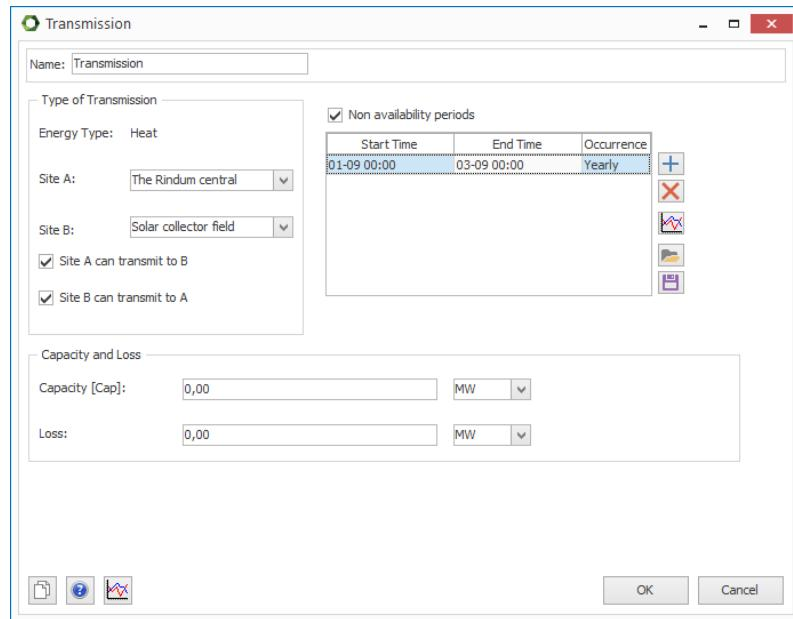

Figure 2-51: Screenshot of the Transmission input form
- **Non availability periods:** This option can be used for yearly maintenance periods where the transmission is not available. In Figure 2-51 it can be seen that the transmission is unavailable every year from the 1st of September until the 3rd of September.